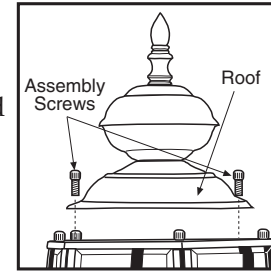

Figure 1
- a. For two screw and multiple screw assembly roofs, remove assembly screws on roof (or underneath roof) and insert bulb(s). Reattach roof. (see figure 1 and 2)